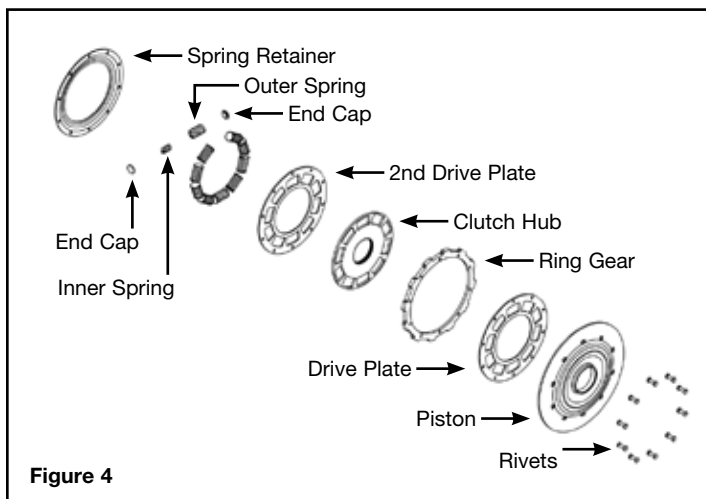
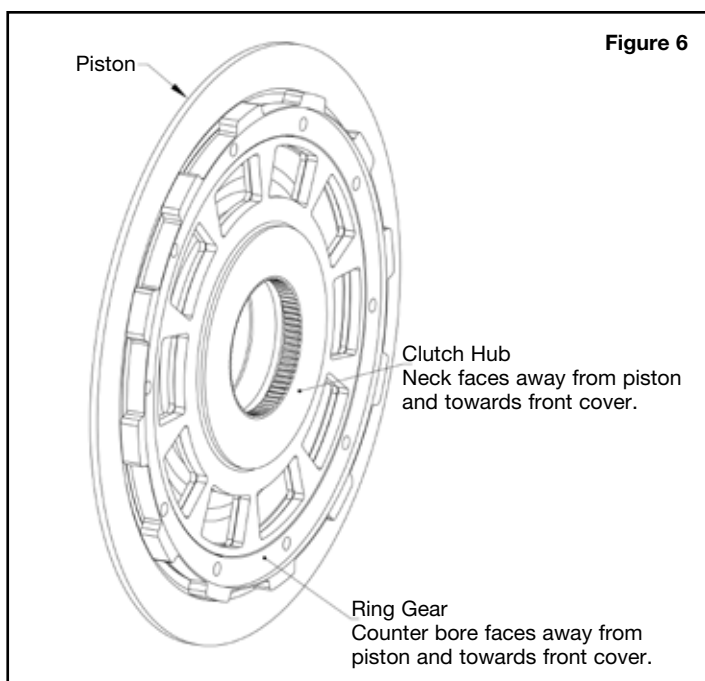

Figure 4
Figure 6
The piston/damper unit (**Figure 4**) comes unassembled so it can be tuned to match the amount of engine torque. The damper can be tuned to work with engines producing 625 ft-lb up to 1250 ft-lb of torque.
- Place the piston with the lock-up surface facing up. Stack up in this order: drive plate, ring gear with the counter bore facing up, clutch hub with the neck of the hub face up (see **Figure 4** and **Figure 6**), and the second drive plate. Make sure to line up the rivet holes and spring pockets. (It might be helpful to use a pair of long 1/4" bolts to aid lining up the rivet holes.)